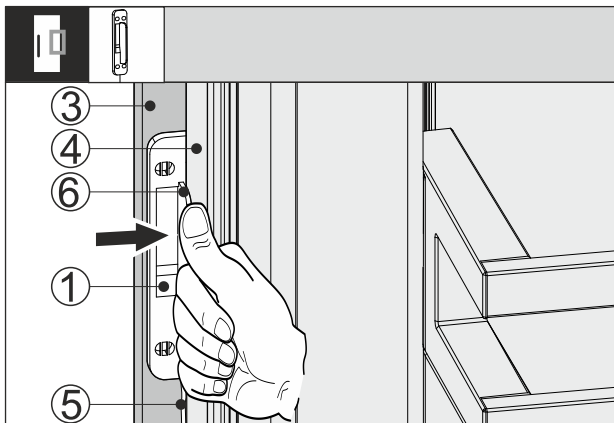

Fig. 66
- ▶ Push the knocking sensor Fig. 66 (1) between the cabinet front Fig. 66 (3) and appliance door Fig. 66 (4) so that the cable Fig. 66 (5) is slightly tensioned. The stop Fig. 66 (6) of the knocking sensor is touching the appliance door Fig. 66 (4).
- ▶ Press the knocking sensor Fig. 66 (1) onto the cabinet front Fig. 66 (3).
- ▷ Knocking sensor Fig. 66 (1) is glued on. Gluing the knocking sensor on optimizes the transmission of the knocking signal.
A permanent attachment of the knocking sensor Fig. 66 (1) increases the service life.
- ▶ Screw the knocking sensor Fig. 66 (1) onto the cabinet front using the supplied screws Fig. 66 (3).